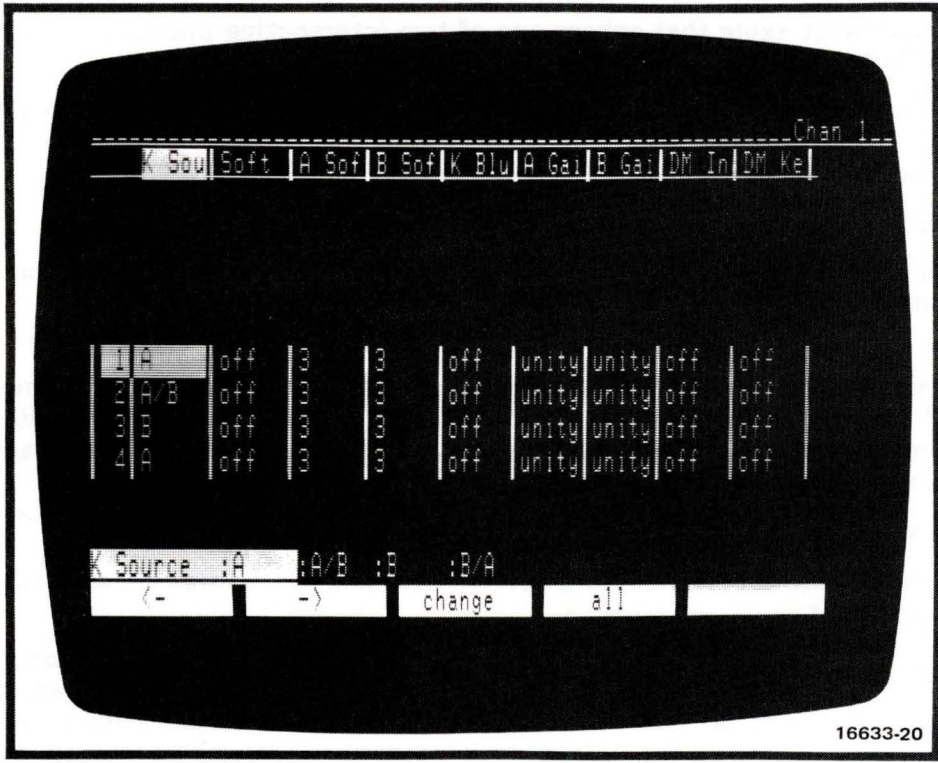

Figure 2-19. Key Control Menu
- **key control** brings up key control display (see Figure 2-19) and a soft key menu consisting of: